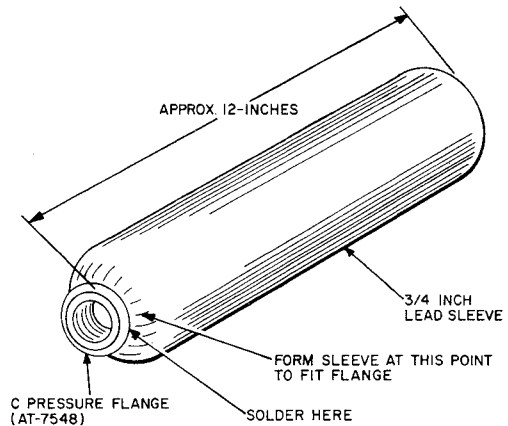
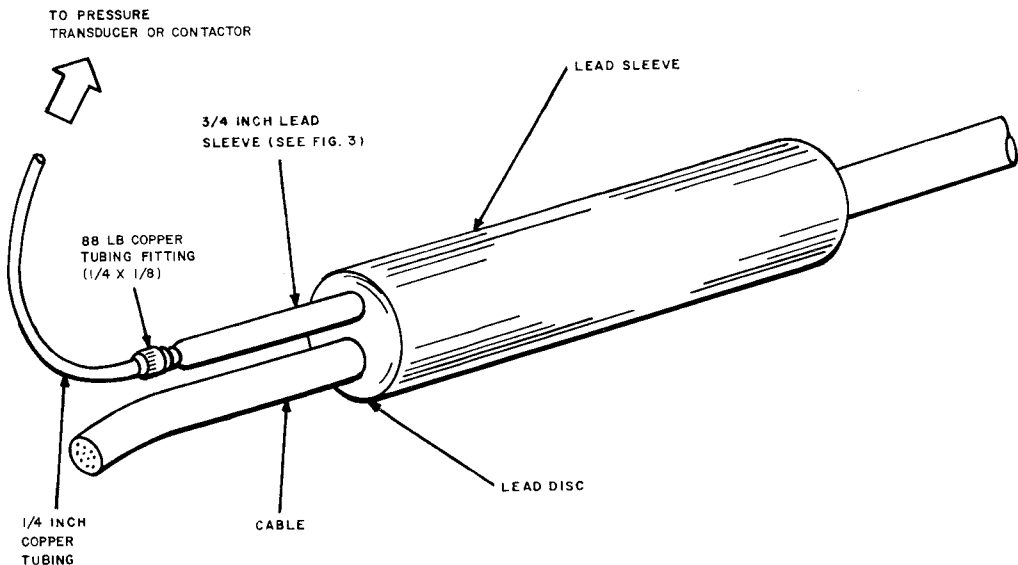

Fig. 2—Lead Sleeve
Fig. 3—Installation at Lead Splice Sleeve Complete
- (1) Cut a 12-inch long piece of 3/4-inch lead sleeving.
(2) Prepare surface of the sleeve for soldering, and with a hammer or other suitable tool, carefully form one end of the sleeve to receive a C pressure flange (AT-7548).
(3) Solder flange in place. (See Fig. 2.)
(4) Apply pipe thread compound to threads of the copper 88-LB tubing fitting and screw the fitting into the C pressure flange.
(5) Pass the two conductors from the transducer through the fitting and sleeve and secure the copper tubing to the fitting.
(6) Place the 3/4-inch lead sleeve into the end plate of the lead sleeve which will cover the splice opening. (See Fig. 3.)
(7) Splice the two conductors from the transducer to the two 3-foot long conductors previously installed.
(8) Close the lead sleeve in the standard manner.